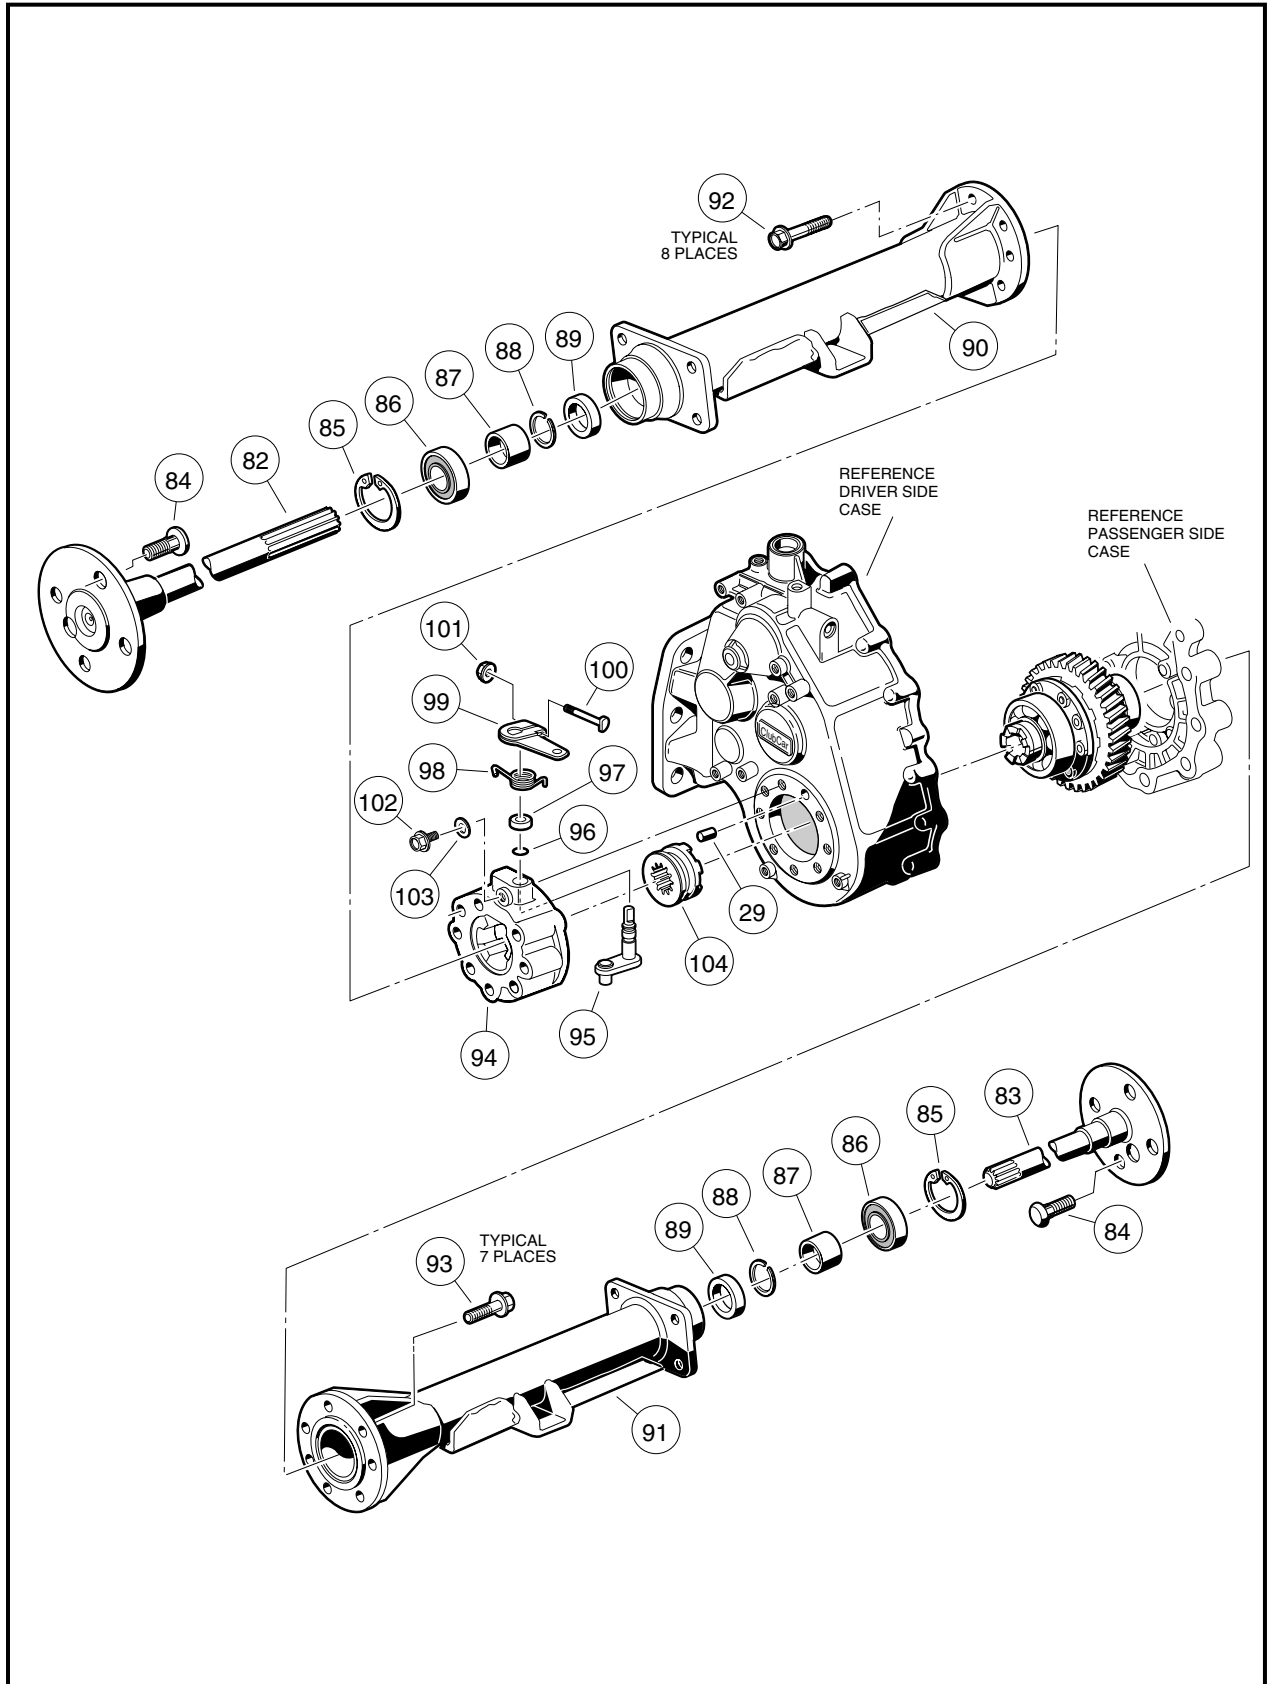

Figure 16b-9 Differential Gear Case/Axle Tubes
2. Press the bearing (86) and collar (87) off together (**Figure 16b-9, Page 16b-7**). Leave the retaining ring (88) on the axle shaft. **See also Figure 16b-10, Page 16b-8. See following NOTE.**